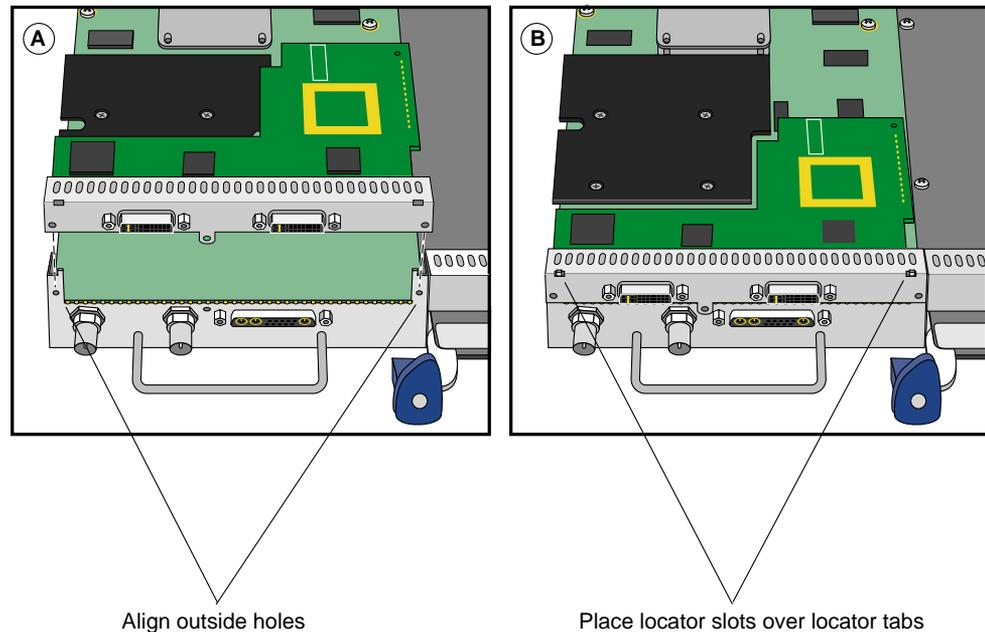

Figure 1-15 Positioning the Display Option Board
- Line up the Display Option Board's two outside holes with the two outside holes on the VPro Graphics Board (see A in Figure 1-15).
- Line up the two locator slots on the outside of the Display Option Board with the locator tabs on the outside of the VPro Graphics Board (B).